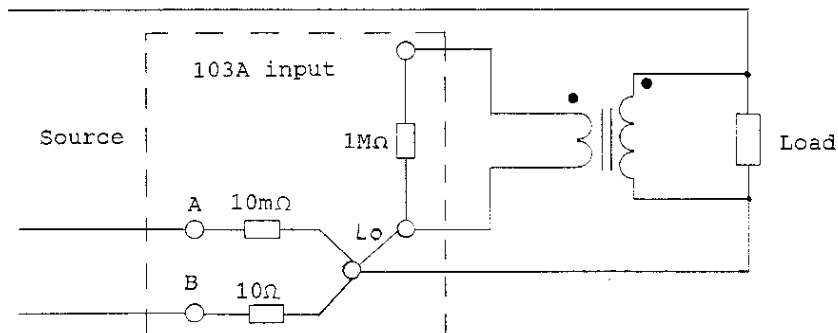

Figure 5.1. Circuit Connection Using Voltage Transformer
- Figure 5.1. shows the circuit connection using a voltage transformer.